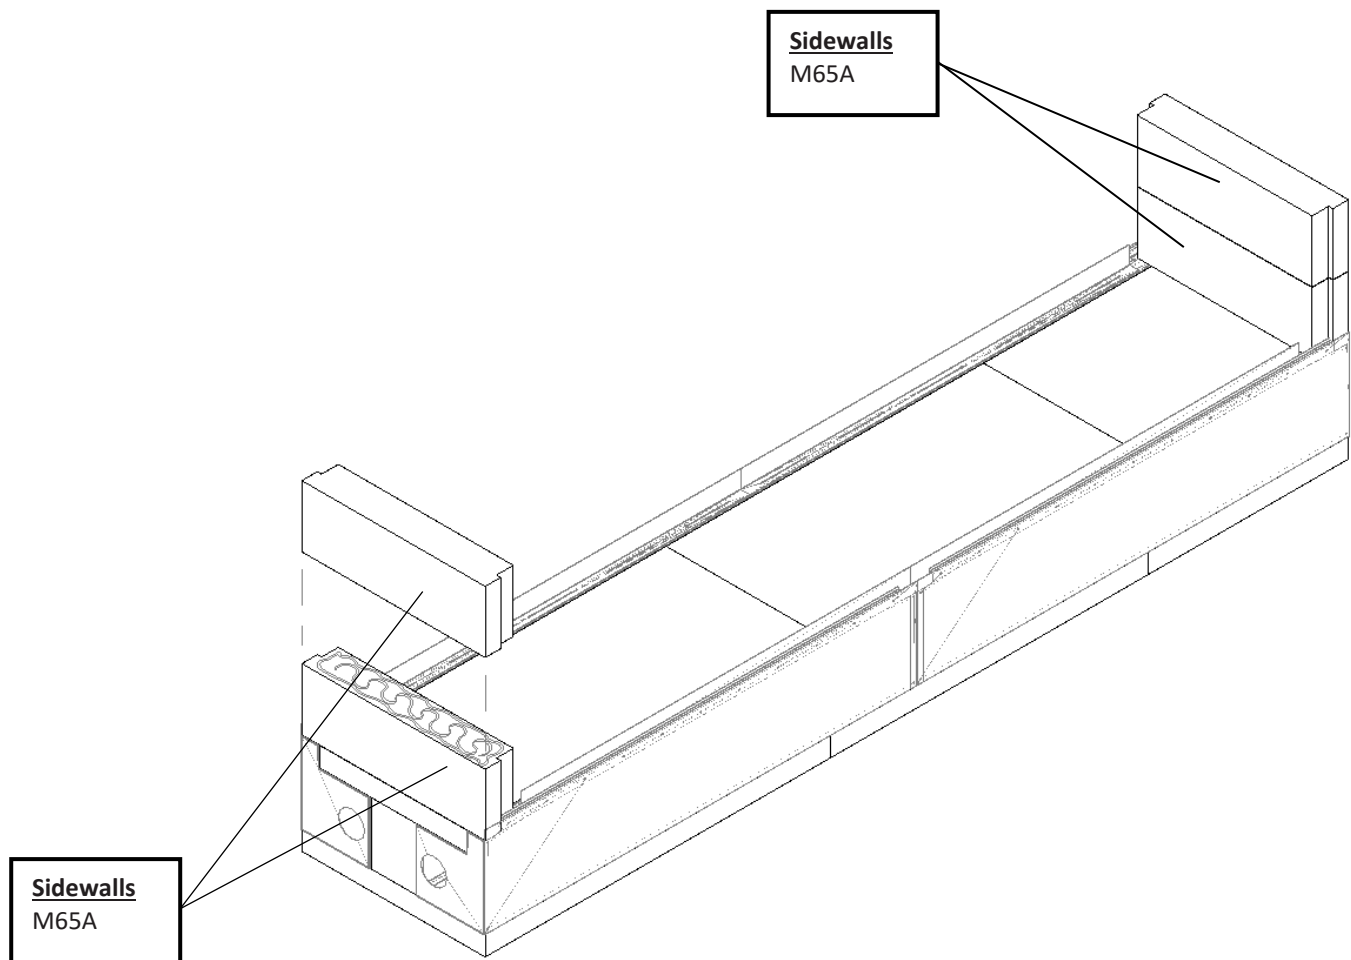

FIGURE 12
- 5) Continue assembly of the consecutive courses of the firebox side walls. Apply Earthcore Adhesive to the top of each layer of side wall components before setting the next course in place (**Figure 12**). Look for some Earthcore Adhesive to squeeze out along the joints of all contact surfaces as a sign that the joint is thoroughly sealed with the approved Earthcore Adhesive.